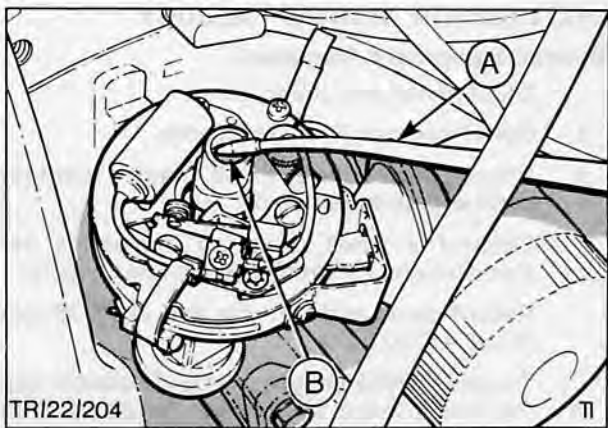

Fig. 15. Lubricating distributor cam spindle wick
- (a) distributor cam spindle wick with two drops of engine oil, Fig. 15.